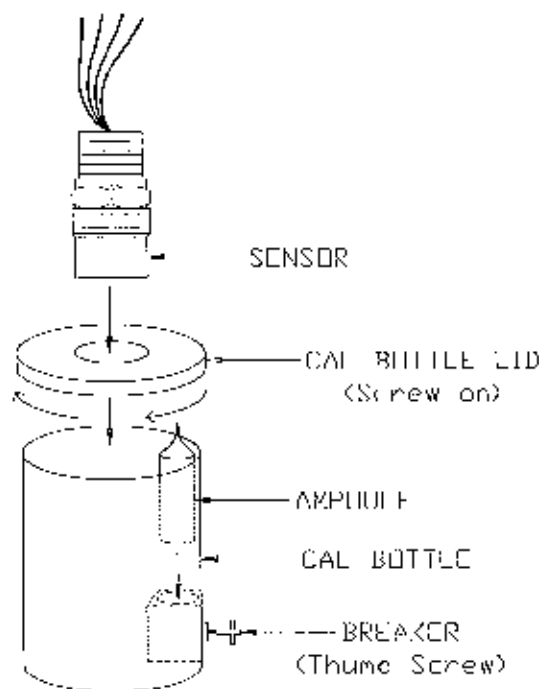

Figure 15
- Place an H_2S ampoule (50% of scale is recommended) into a breaker bottle and place the breaker bottle over the sensor (figure 15).